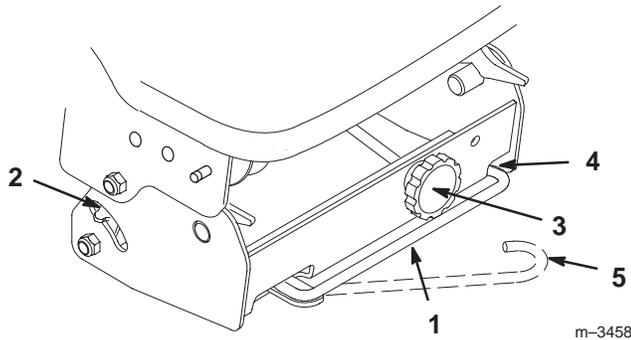

Figure 35
1. Check the tension indicators on each side of the pulley box. If the tension indicators are not in the same position on both the left and right sides, release the belt tension and turn the adjustment knob. Push the belt tension release arm back toward the pulley box to tension the belt (Fig. 35).
- Once the indicators are in the same position on both sides, swing the tension release arm into the pulley box by moving it into the position shown in Fig. 35.